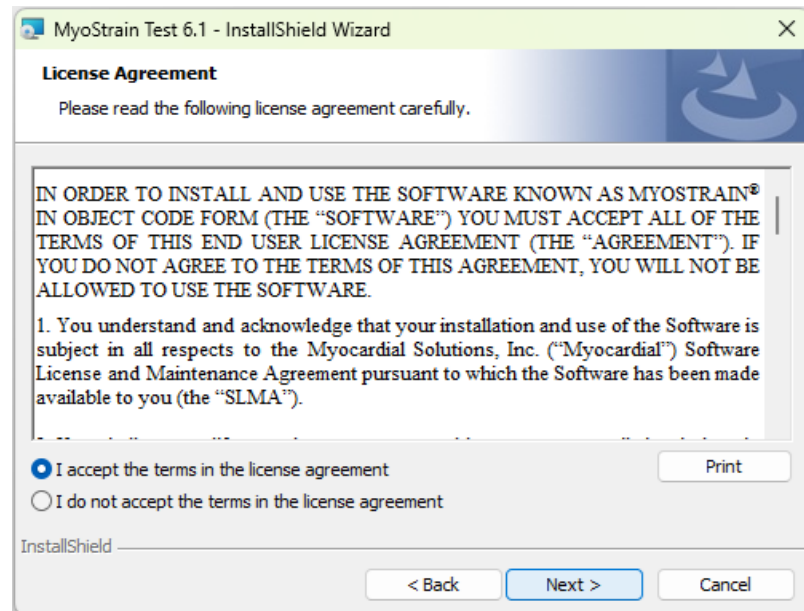

Figure 2-2: End User License Agreement – Accept must be selected to continue.
2. Please read the license agreement, and if you agree select the "I accept the terms in the license agreement" option shown in the second installation window (Figure 2-2).